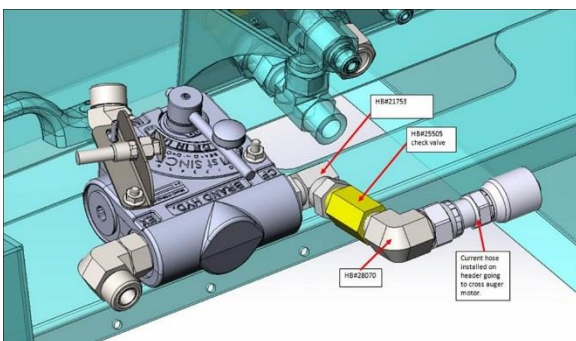

Figure 222
2. Note: In MY2021 a check valve was added to the CF port to only allow the reel to reverse. This check valve could also be added to any MY2019 or 2020 headers. Figure 222